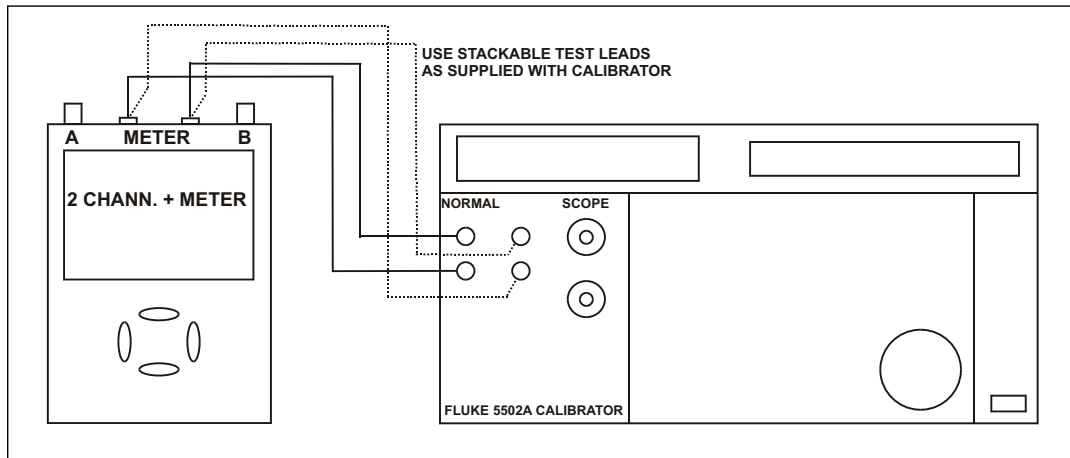

Figure 5-10. Four-wire Ohms Calibration Connections
2. Connect the Test Tool to the 5502A as shown in Figure 5-10. Notice that the sense leads must be connected directly to the Test Tool inputs.